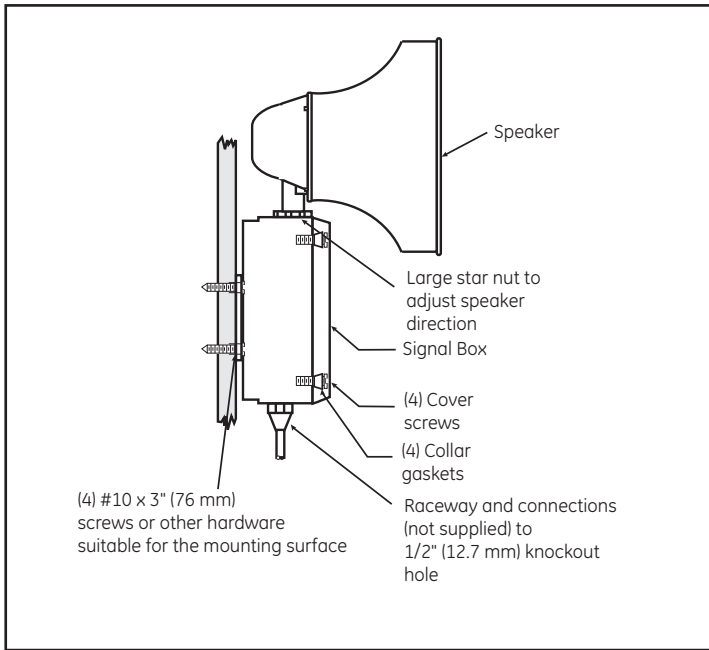

Figure 2. Adaptatone Mounting
- Mount Adaptatone as shown in Figure 2.
- Flat Surface Mounting.** Secure unit to mounting surface using the (4) mounting holes in the mounting plate on the rear of the box. Use the #10 x 3" (76 mm) wood screws (furnished loose) or other hardware (not supplied) suitable for the mounting surface.
- Rigid Pipe Mounting.** Loosen the (4) cover screws from the signal box and lift off signal box cover.
6. To adjust speaker direction, loosen large star nut (Figure 2) and turn speaker to the approximate desired position. Retighten nut and turn speaker slightly clockwise until locked into place.